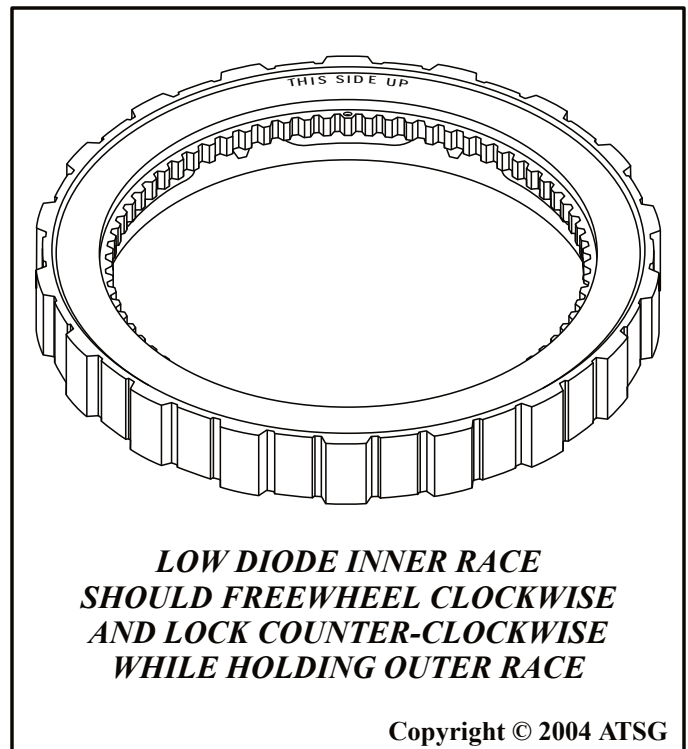

Figure 161
2. Check the low diode for proper operation, as shown in Figure 161.